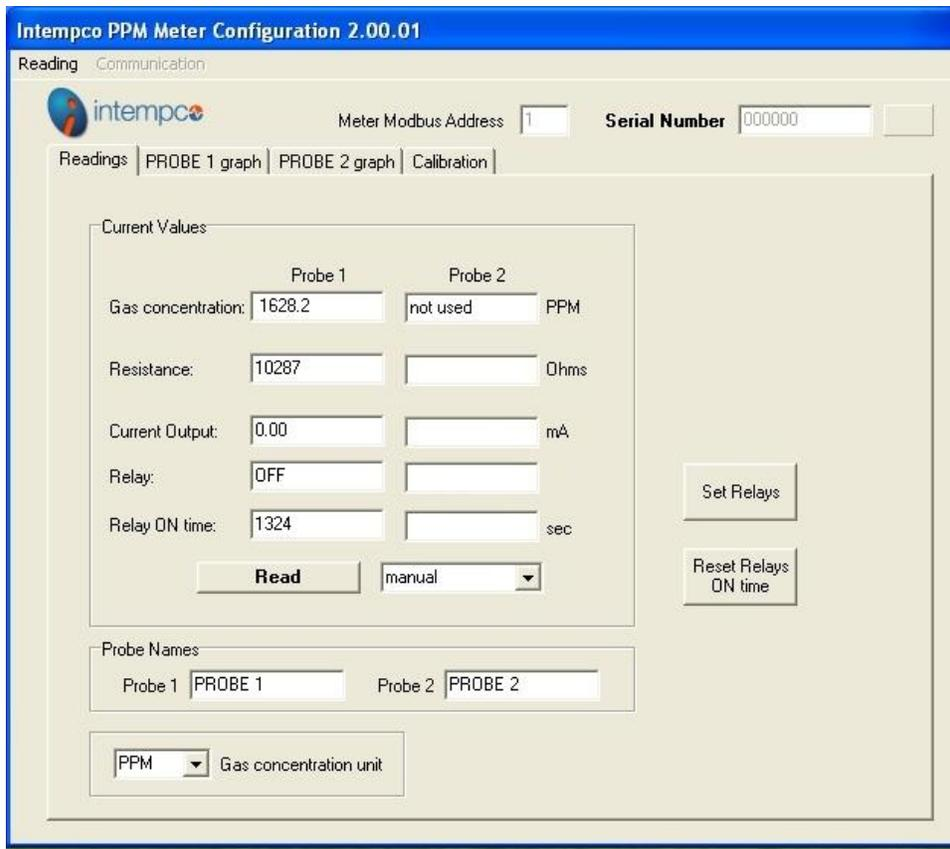
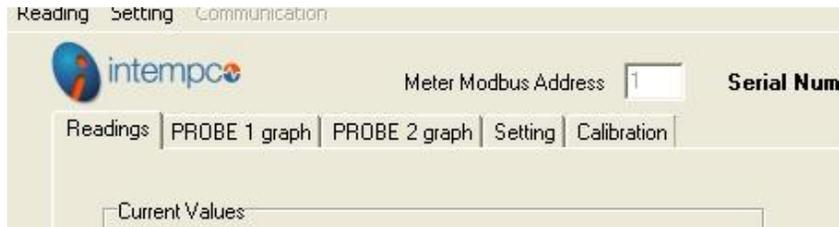

Fig.9
fig.25
The PPMETER program main screen is shown on figure 9.
PC connects automatically with the PPMM unit and downloads current PPM values for one or two Gas Sensing Probes, as well as Probe(s) resistance, current output value(s) and relay status (figure 9). The Probes controller is also totalizing time then the Relay was energized (ON state).
After the entered password is accepted you will see the similar screen on figure 9, but with an additional tab “Setting” (figure 25).
- Select "Setting" from the Main Menu and "Retrieve from Meter" (figure 25). Alternatively you can load data from template file by selecting "Setting" from the main menu, next "Open file" and select the file name.